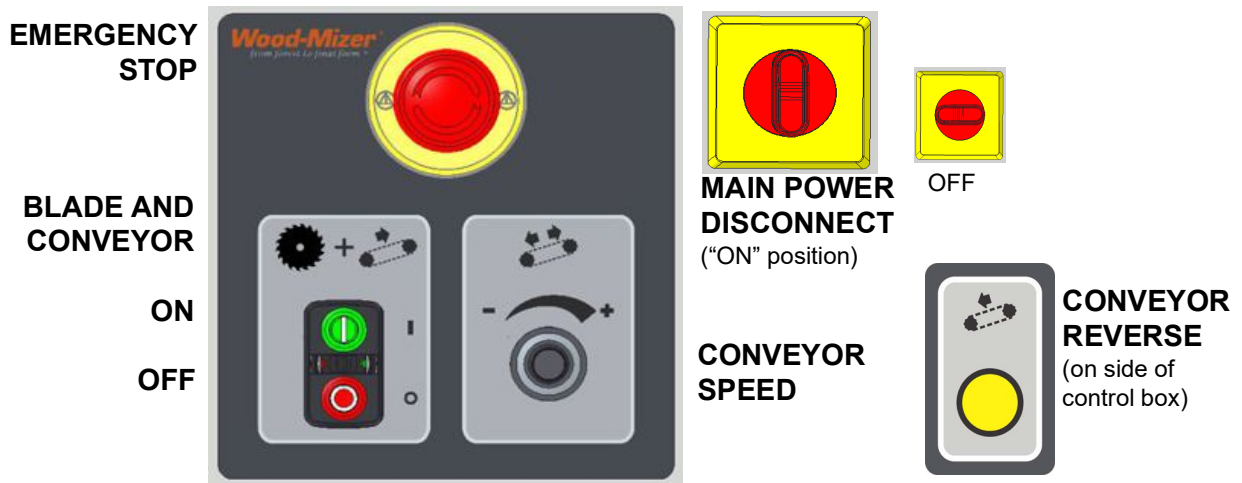

FIG. 3-4
EMERGENCY STOP - disconnects all external power to the machine. See Fig. 3-4.
CONVEYOR SPEED - sets board feed speed. See Fig. 3-4.
BLADE AND CONVEYOR - turns blade and conveyor on at the same time. See Fig. 3-4.
2. Turn on the main power disconnect. See Fig. 3-4.
3. Press the Blade and Conveyor **ON** button. See Fig. 3-4.
4. Set the conveyor speed. See Fig. 3-4.
9. Press the Blade and Conveyor **OFF** button. See Fig. 3-4.
10. Turn on the main power disconnect. See Fig. 3-4.